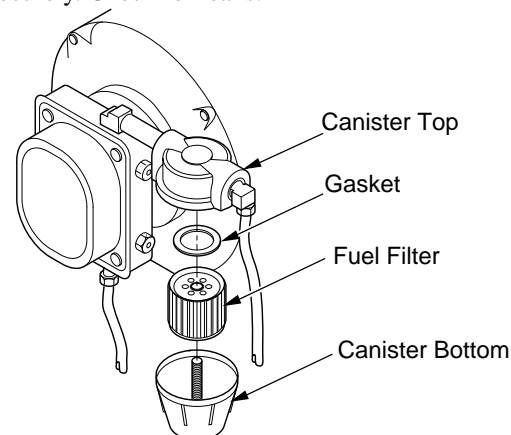

Figure 18 - Fuel Pump Filter and Canister
2. Remove fuel filter and gasket from canister bottom (see Figure 18).